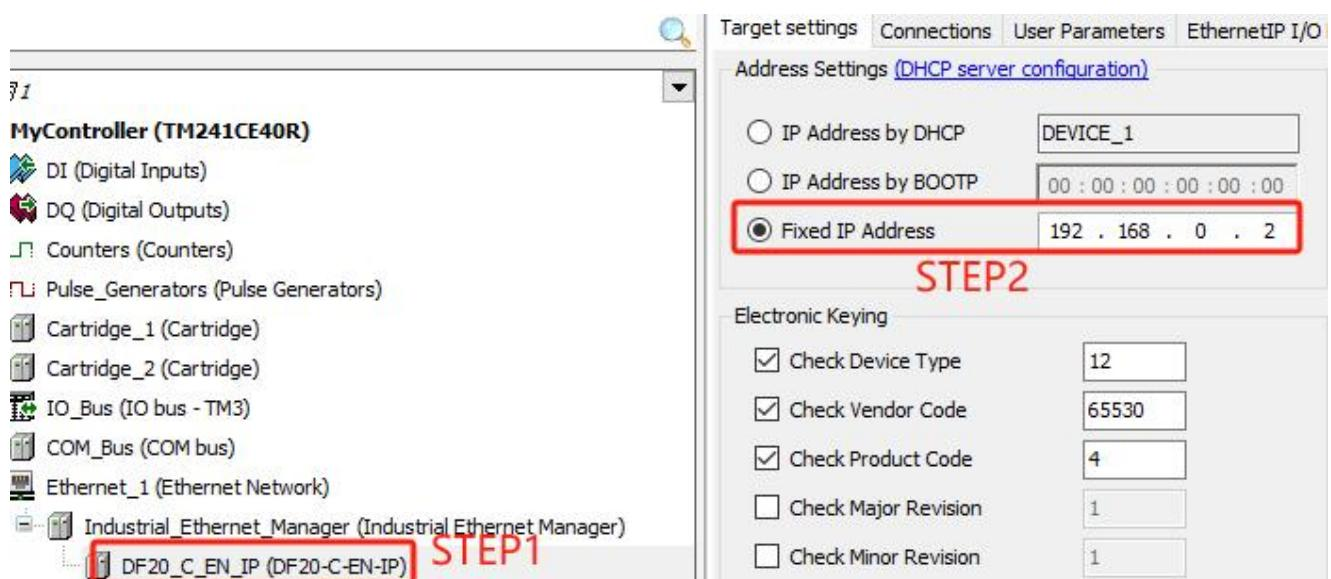

Figure 5-3-13
- As shown in Figure 5-3-13, click “DF20-C-EN-IP” to configure the coupler parameters.